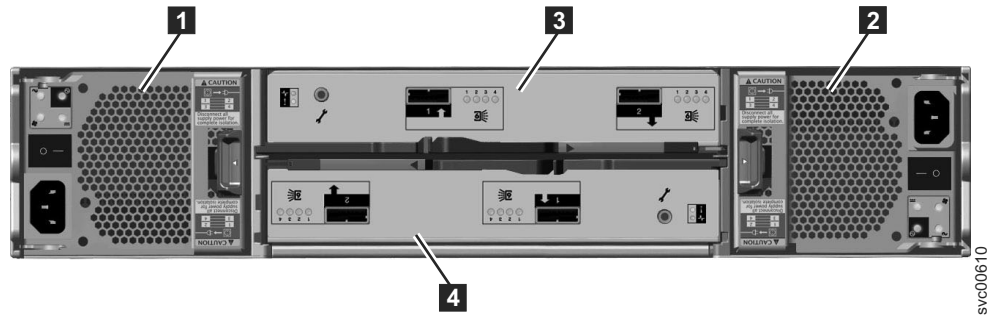

Figure 6. Rear view of a model 2076-212 or a model 2076-224 expansion enclosure
Figure 6 on page 7 shows the rear view of an expansion enclosure and identifies the location of the power supply units and the canisters. The ports and their use are described later in this section.
- Two canisters are housed in the middle of the enclosure. Each canister is known as an expansion canister. The upper canister, as shown in Figure 6, is canister **3**, and the lower canister is canister **4**. Canister 1 is top side up, and canister 2 is inverted, or top side down.